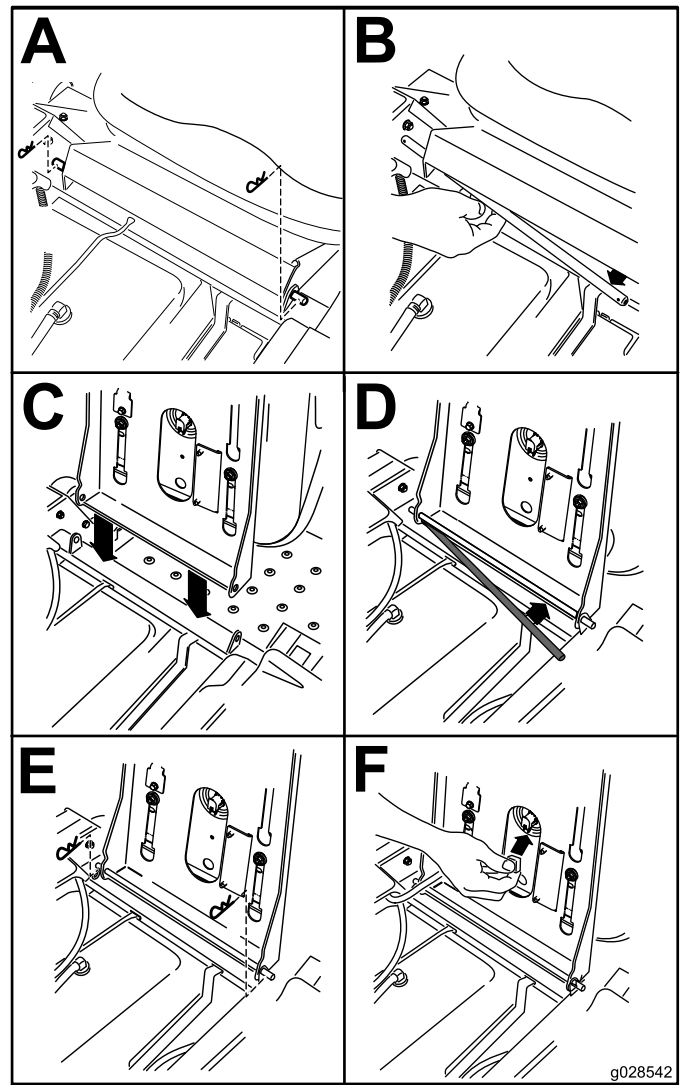

Figure 4
5. Setup the seat as follows (Figure 4):